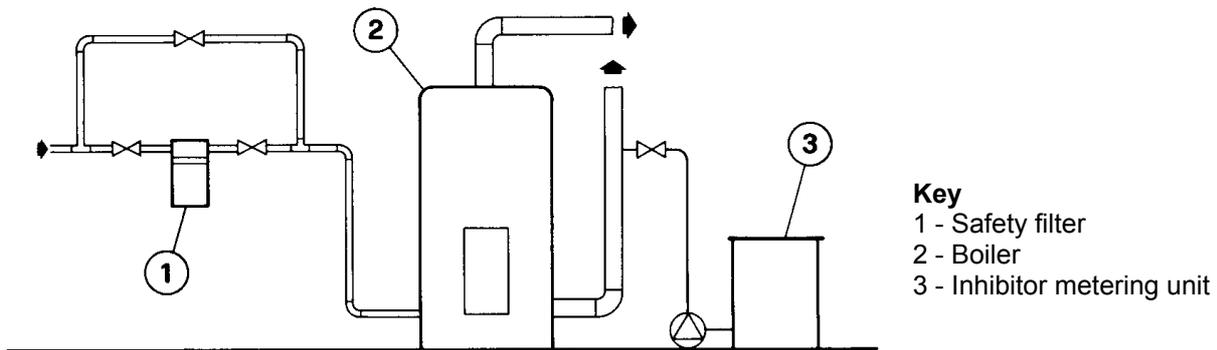

Fig. 8
- Chemical treatment (see Fig. 8) with inhibitor compatible with the waste water laws.